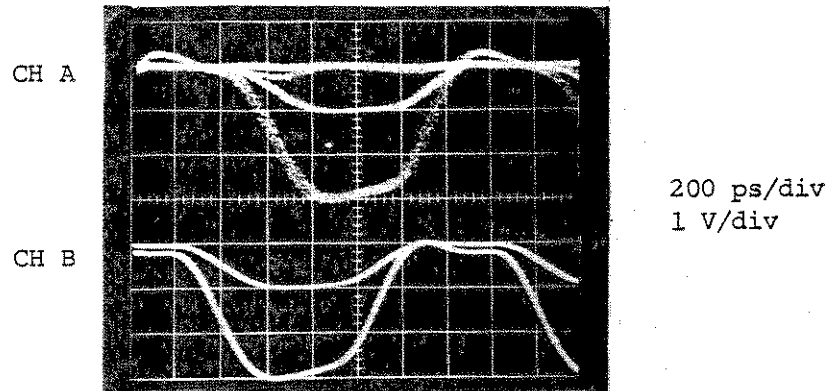

Fig. 6-15 CLOCK 1 Output and DATA 1 Output Amplitude
- 5 Confirm that the CLOCK 1 and DATA 1 amplitude can vary from 1 V to 3 V by the respective CLOCK 1 and DATA 1 AMPLITUDE [∇], [\blacktriangle] keys. (See Fig. 6-15.)